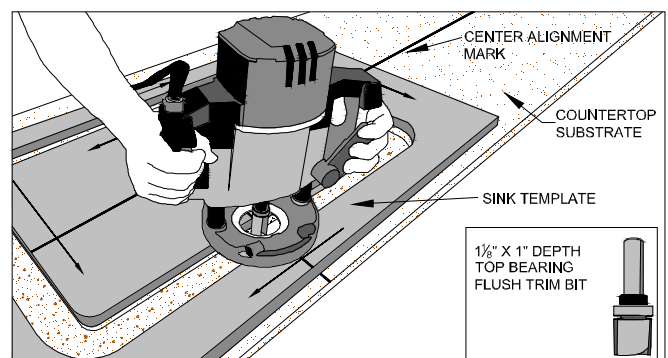

Figure 5D
- Remove all substrate for this routing depth between the two part templates. (FIG. 5D)